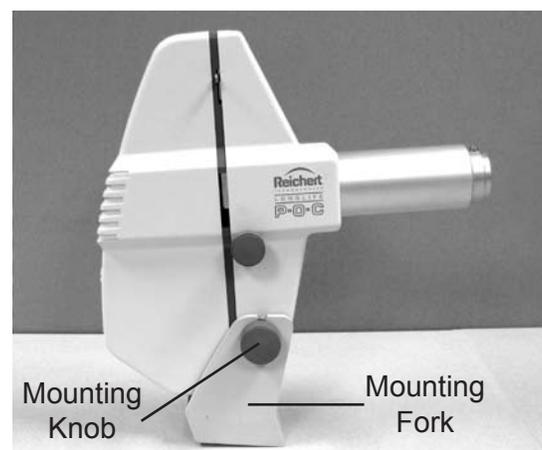

Figure IS-5 Mount to Yoke
3. Loosen the Mounting Knobs by turning the counter-clockwise. Refer to Figure IS-5.
4. Insert the LongLife POC between the Mounting Fork. Refer to Figure IS-5.
5. Secure the LongLife POC with the two Mounting Knobs by turning the knobs clockwise to secure them. Refer to Figure IS-5.